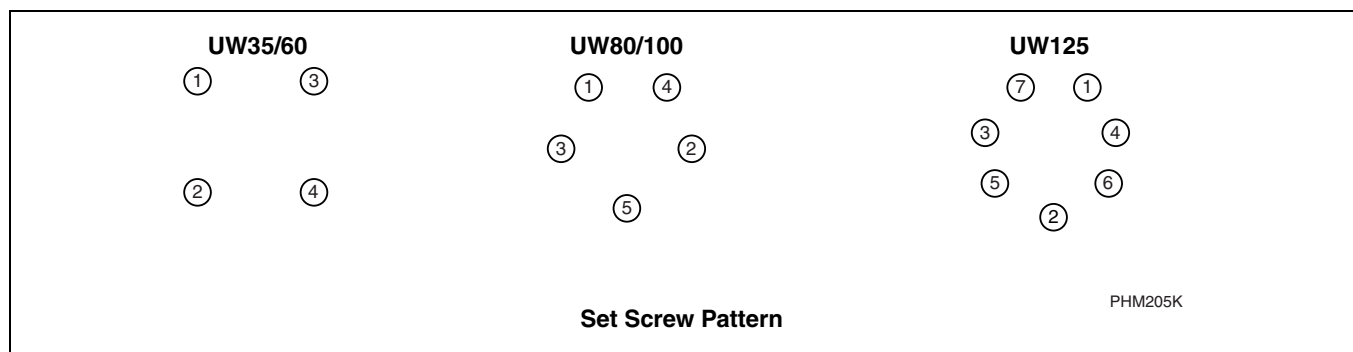

Figure 34
- Snug the Rear Bearing:** Using a short 3mm Allen wrench, tighten the mounting side set screws on the rear bearing until only two threads on each screw are visible. Alternate in 1/2 turn increments according to the pattern shown in *Figure 34*. Ensure that the mounting collar still rotates freely.
- Snug the Front Bearing:** Using a short 3mm Allen wrench, tighten the mounting side set screws on the front bearing until only two threads on each screw are visible. Alternate in 1/2 turn increments according to the pattern shown in *Figure 34*. Ensure that the mounting collar still rotates freely.